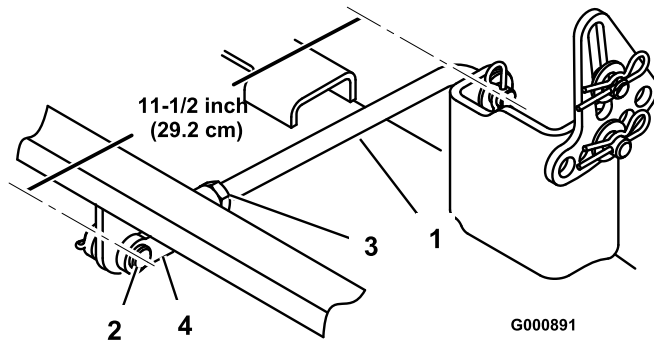
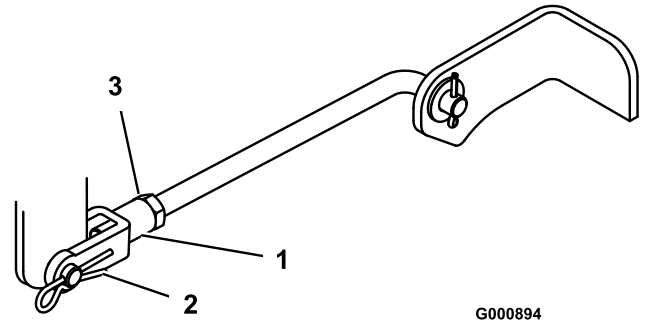

Figure 44
Figure 46
6. Measure the length of the rear trunnion rod (Figure 44). If the rod length is not 11-1/2 inch (29.2 cm), remove the clevis pin and cotter pin from the end of the rod (Figure 44), loosen the jam nut, and turn the yoke until the 11-1/2 inch (29.3 cm) dimension is obtained.
- To adjust the front-to-rear blade slope, remove the hairpin cotter and clevis pin from the front trunnion yokes and loosen the jam nuts (Figure 46).
- Rotate the yokes on the rods to change the adjustment (Figure 46). To raise the front of the mower, tighten the yokes (shorten the rods). To lower the front of the mower, loosen the yokes (lengthen the rods).
- When the front-to-rear blade slope is correct, tighten the jam nuts (Figure 44 and Figure 46).